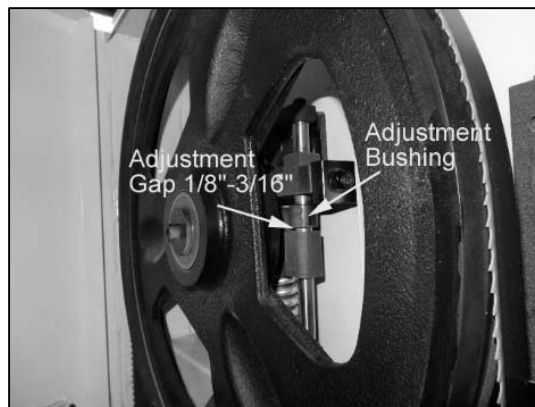

Figure 7-12
**Model JWBS-20:** Move stop bushing (Figure 7-12) until gap between stop bushing and wheel shaft hinge is 1/8 to 3/16 in.